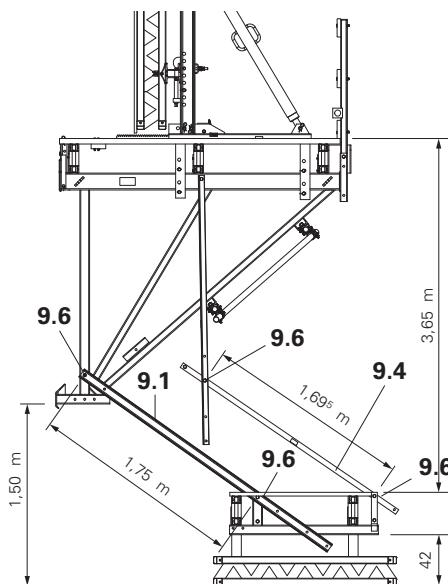

Fig. B1.28.1
Depending on the concreting height, use top or bottom hole, see Fig B1.28.1 – B1.28.4. Mount wind bracing (6.3/7.3).
5. Fix the Guardrail Post 190 (9.4) or Guardrail Post 370 (9.5) to Guardrail Post 200 (9.3) at an angle using bolt (9.6). Depending on the concreting height, use top or bottom hole, see Fig. B1.28.1 – B1.28.4. Mount wind bracing (6.3/7.3).
Working platform – finishing platform spacing: 3.65 m. Required free space: ≥ 42 cm. Mark out Platform Post CB 225 (9.1) and Guardrail Post CB 190 (9.4). (Fig. B1.28.1)